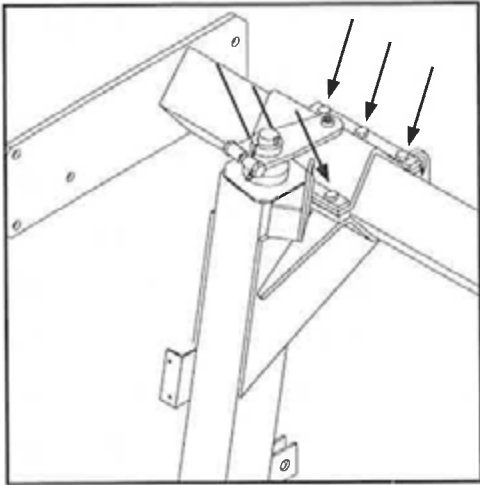

FIG 4.1
3. Loosen the leg mounting bolts on both the front and rear legs on one side of the sprayer only (fig. 4.1).